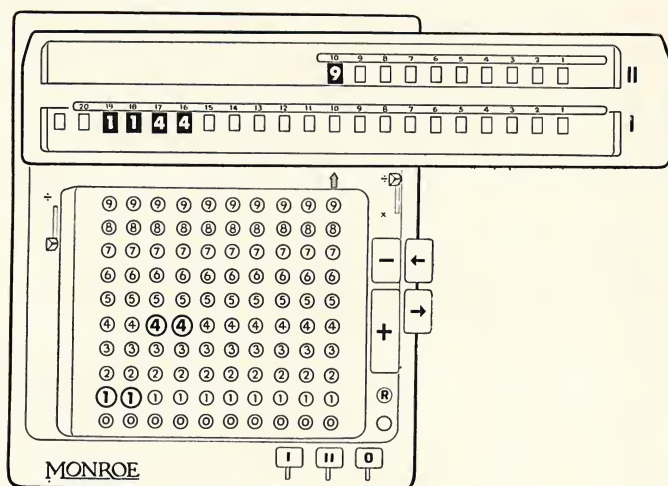

Figure 23
Step 1—Move carriage to extreme right ("8" position with Model MA 7-173-W, "10" position with Model MA 7-213-W). Since the reciprocal of 144 is 1 divided by 144, prefix a 1 to 144 (1144) and set the 1144 on the extreme left of the keyboard. Depress plus bar once. Clear nothing. The machine now appears as in Figure 23.